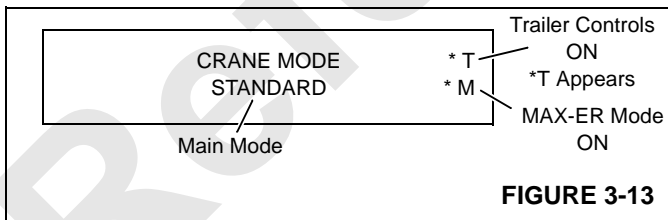

FIGURE 3-13
- Turn crane mode key clockwise repeatedly until MAX-ER ON appears on display as shown in Figure 3-13.